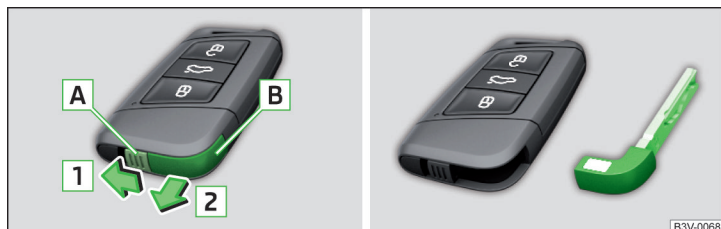

Fig. 38 KESY key
- > Remove retainer tabs **A** in the direction of arrow **1** » Fig. 38.